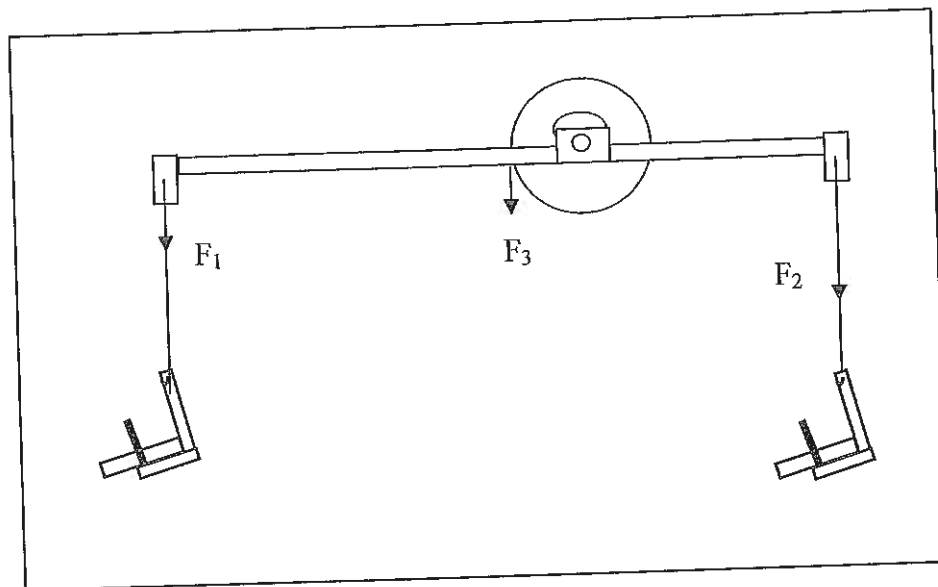

Figure 8.2: Torques and center of mass
4. Attach a mass hanger to each end of the beam. Hang 50 grams from one hanger, and 100 grams from the other, as shown in Fig. 8.2. Now slide the beam through the pivot retainer until the beam and masses are balanced and the beam is horizontal. The pivot is now supporting the beam at center of the mass of the combined system (i.e. balance beam plus hanging masses).
3. Calculate the torques,  $\tau_1$ ,  $\tau_2$ , and  $\tau_3$  provided by the forces  $\vec{F}_1$ ,  $\vec{F}_2$ , and  $\vec{F}_3$  acting about the new pivot point, as shown in Fig.8.2. Be sure to indicate whether each torque is clockwise (cw) or counterclockwise (ccw).